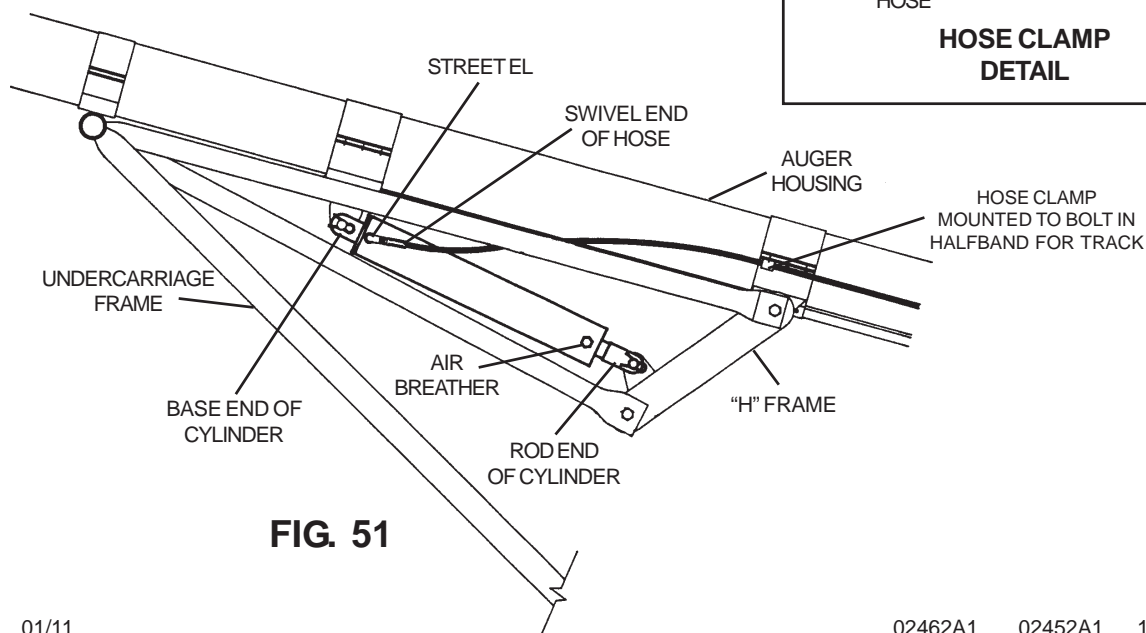

FIG. 51
34. Thread the heavy duty street el into the cylinder port at the base. See Fig. 51. Tighten and leave street el parallel with auger tube and pointed toward intake end. Attach the swivel end of the hydraulic hose to the street el and tighten.